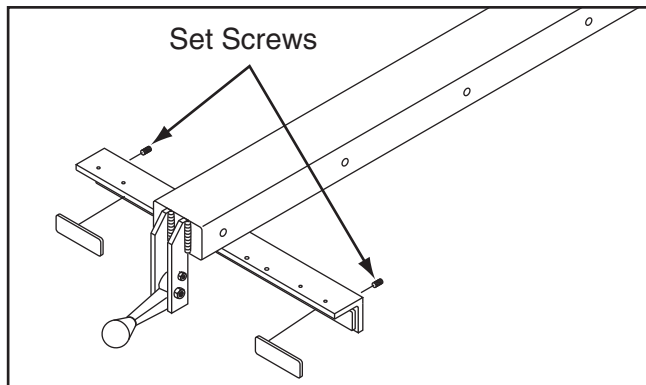

Figure 118. Location of set screws used to adjust fence parallelism and clamping pressure.
2. Remove the fence and equally adjust the set screws shown in **Figure 118** as necessary, then re-install the fence, lock it in place, and check the clamping pressure. Re-adjust as necessary until the fence will not move as pressure is applied against it.
6. Use trial-and-error to adjust the set screws (see **Figure 118**) so the fence is parallel with the blade and the clamping pressure is sufficient.